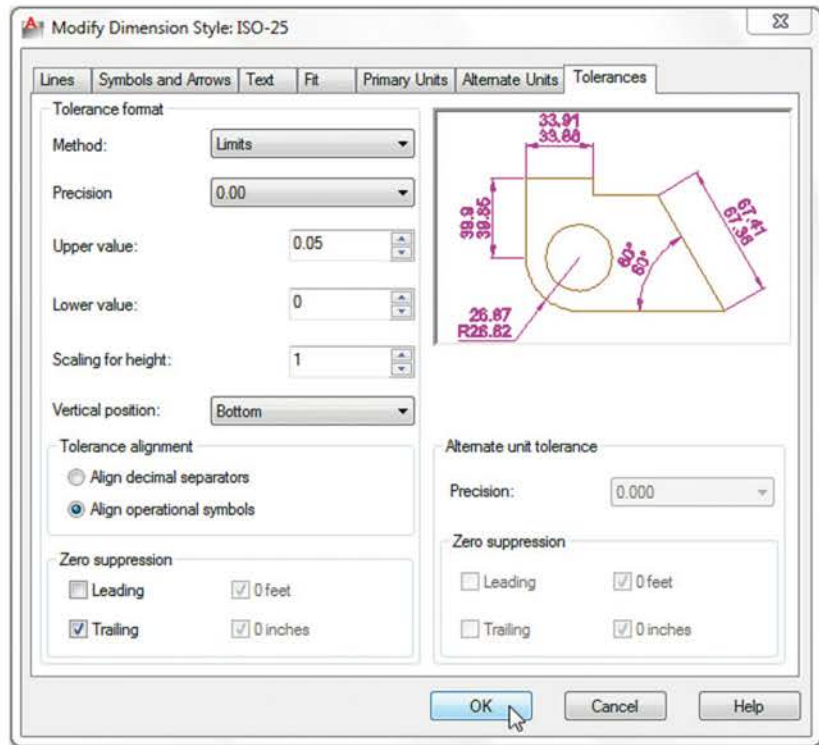

Fig. 12.22 The Tolerances sub-dialog of the Modify Dimension Style dialog
2. *Click* the **Modify . . .** button of the dialog, followed by a *left-click* on the **Primary Units** tab and, in the resulting sub-dialog, make settings as shown in Fig. 12.22. Note the changes in the preview box of the dialog.
3. Dimension the drawing using either tools from the **Dimension** panel or by *entering* abbreviations at the command line. Because tolerances have been set in the **Dimension Style Manager** dialog (Fig. 12.22), the toleranced dimensions will automatically be added to the drawing (Fig. 12.24).